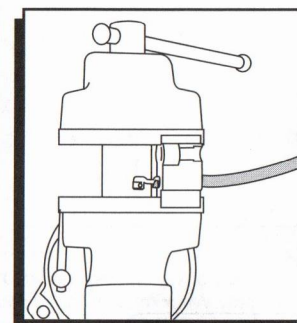

Figure 8
6. Slowly close the vise making sure the tool and terminal stay properly positioned and aligned (Figure 8). Stop applying pressure when the terminal ends have wrapped securely around the sleeve and grip the wire.